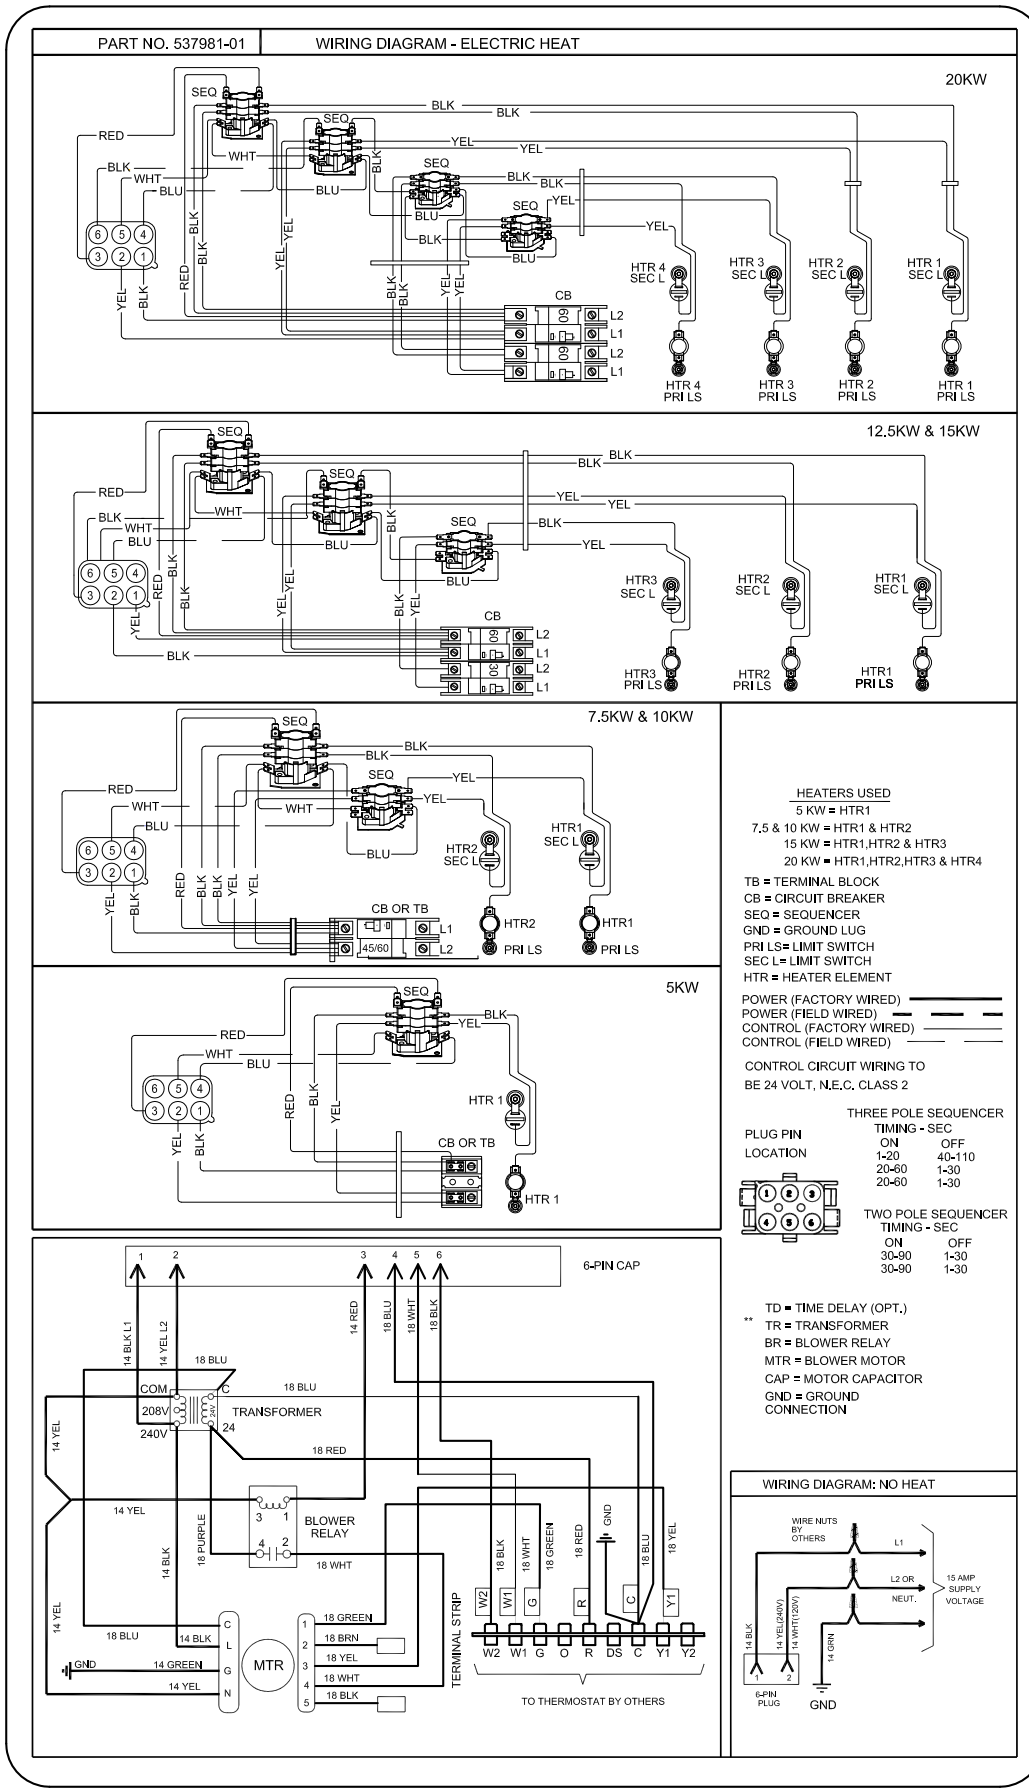

Figure 14. Typical Wiring Diagram – BE5E Air Handler with Electric Heat – (Constant Torque Motor)
- Typical unit wiring (as well as wiring of optional field-installed electric heat) is given in Figure 14. Refer to the instructions provided with the electric heat section for proper installation.